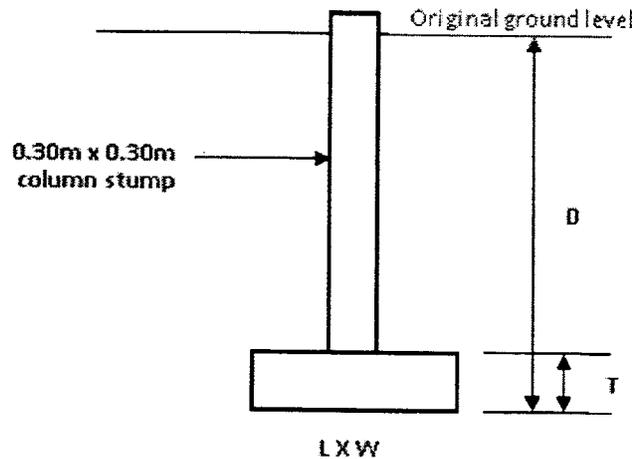

Figure B2(c)/Rajah B2 (c)
- (c) Based on the information given in **Table B2(c)** and **Figure B2(c)**, calculate construction cost for concrete work (1:2:4 -20mm agg.) mixed by hand.